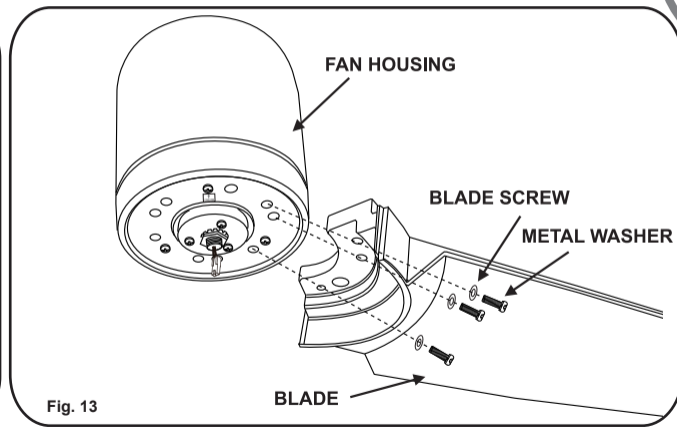

Fig. 13
Step 3. Align the 3 holes from the blade to the flywheel. Secure blade with 3 blade screws (1/4"x20mm) and 3 metal washer provided. Follow same process for the remaining two blades.(Fig.13)